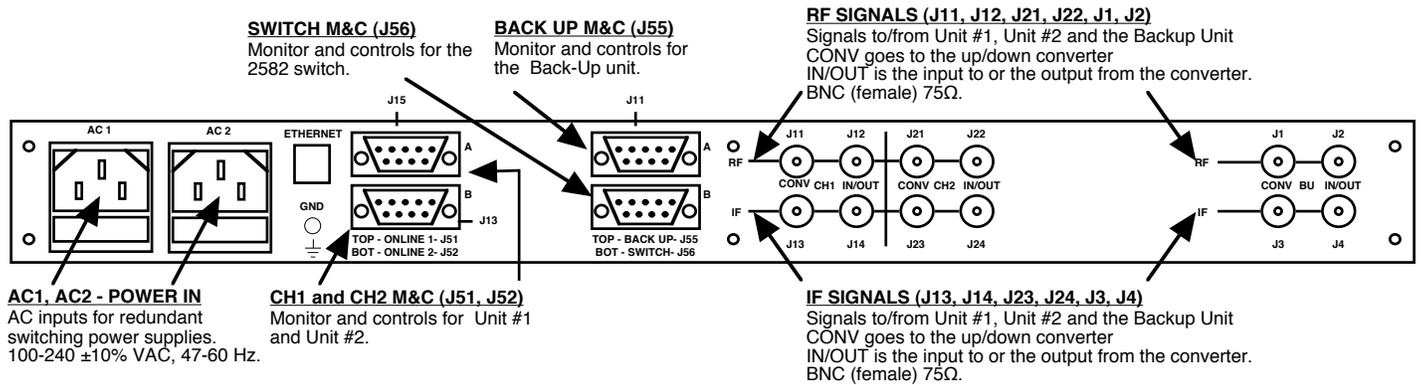

FIGURE 2.1 2582-122 Rear Panel I/O's
Figure 2.1 shows the input and output connectors on the rear panel.
1. Connect Converters (CH1, CH2, BU) to respective channels on the 2582-122 (Figure 2.1).
2. Connect Alarm/Control cables from Converters to respective monitors on the 2582-122 (Figure 2.1).
3. Connect two 100-240 \pm 10% VAC, 47 - 63 Hz power cords to AC A and AC B on the back panel (Figure 2.1).